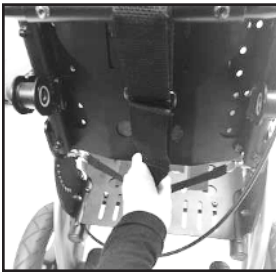

Fig. 6
2. Pull on the recline cord on the back of the seating module, and bring the seat back to an upright position. Fig. 6